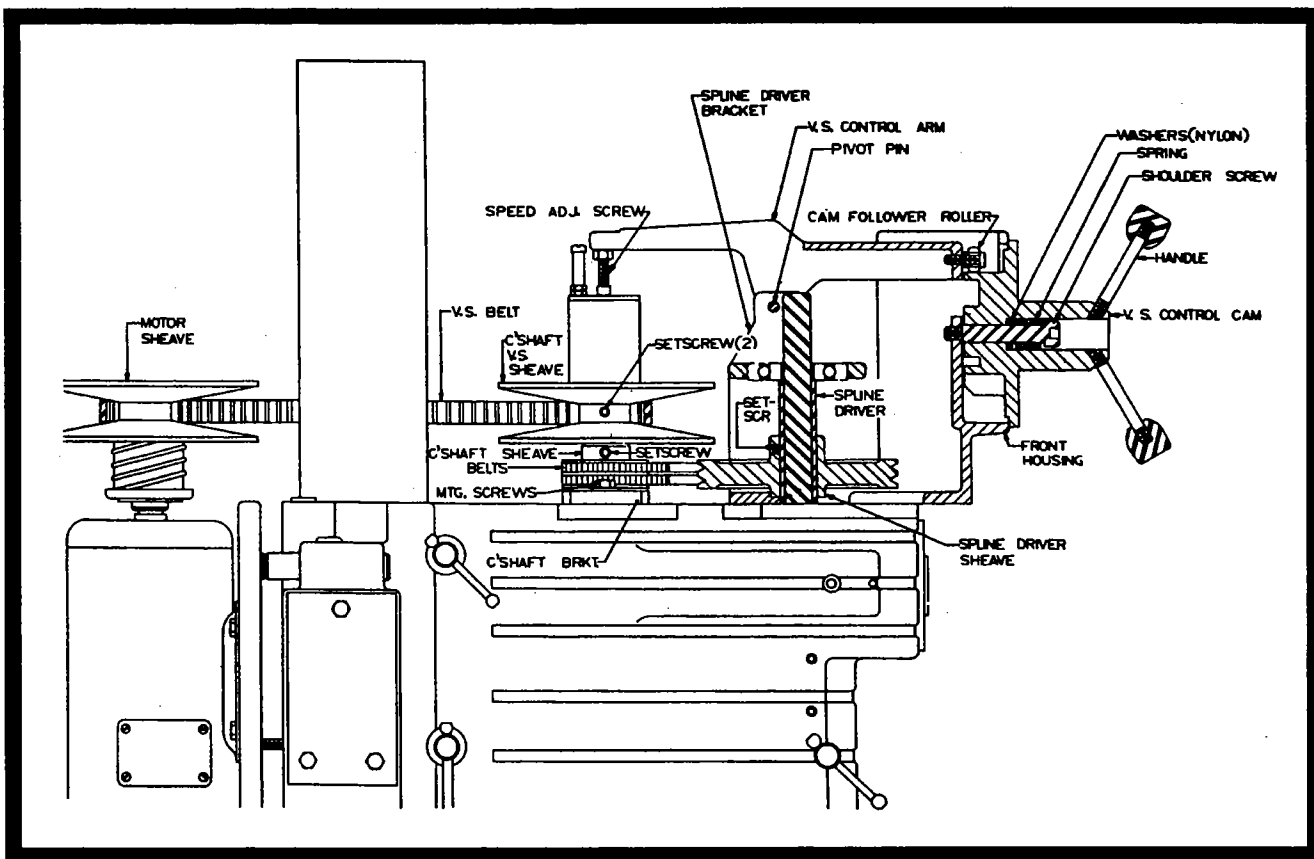

FIGURE 3
- a. Remove variable speed control cam by removing the center shoulder bolt, spring and washers, Figure 3. Remove the four 5/16" guard retaining screws and lift the guard from the machine.
If spindle speed does not appear to match the dial speed on variable speed unit - check speed with a tachometer and adjust by turning bolt on control arm (See Fig. 3) clockwise and/or readjusting motor position to increase speed and counterclockwise to decrease.